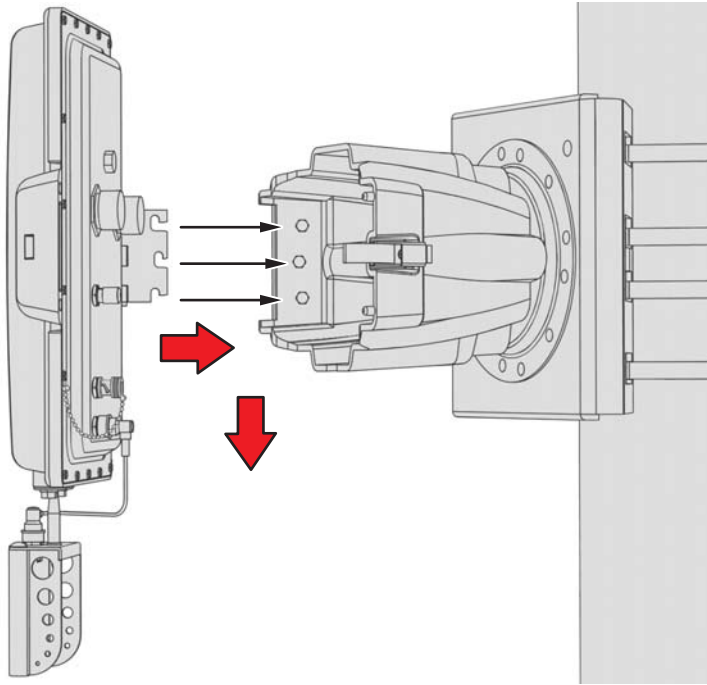

Figure 18. Attaching the EW5301T to the J-Box
7. Hang the hinge of the EW5301T onto the hinge bolts in the J-box (refer to Figure 18).